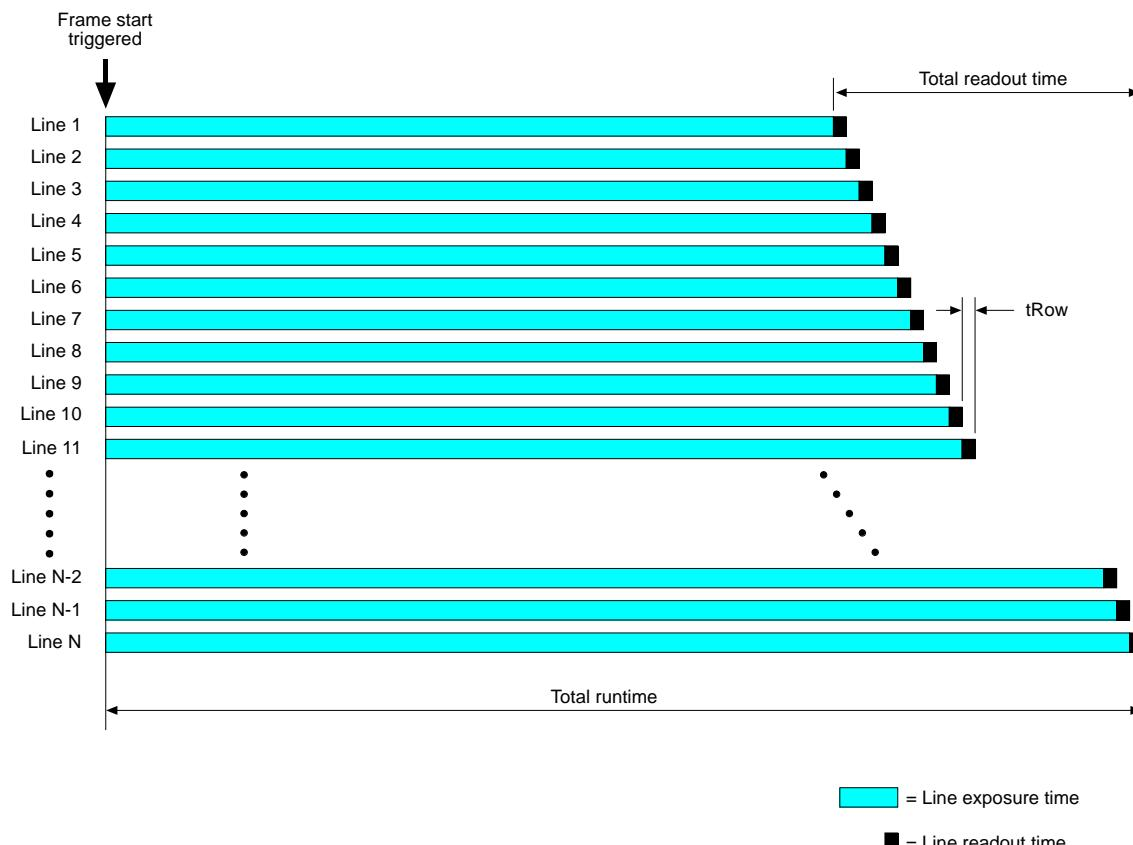

Fig. 81: Global Reset Release Shutter Mode
- And so on until the bottom line of pixels is reached (see Figure 81).